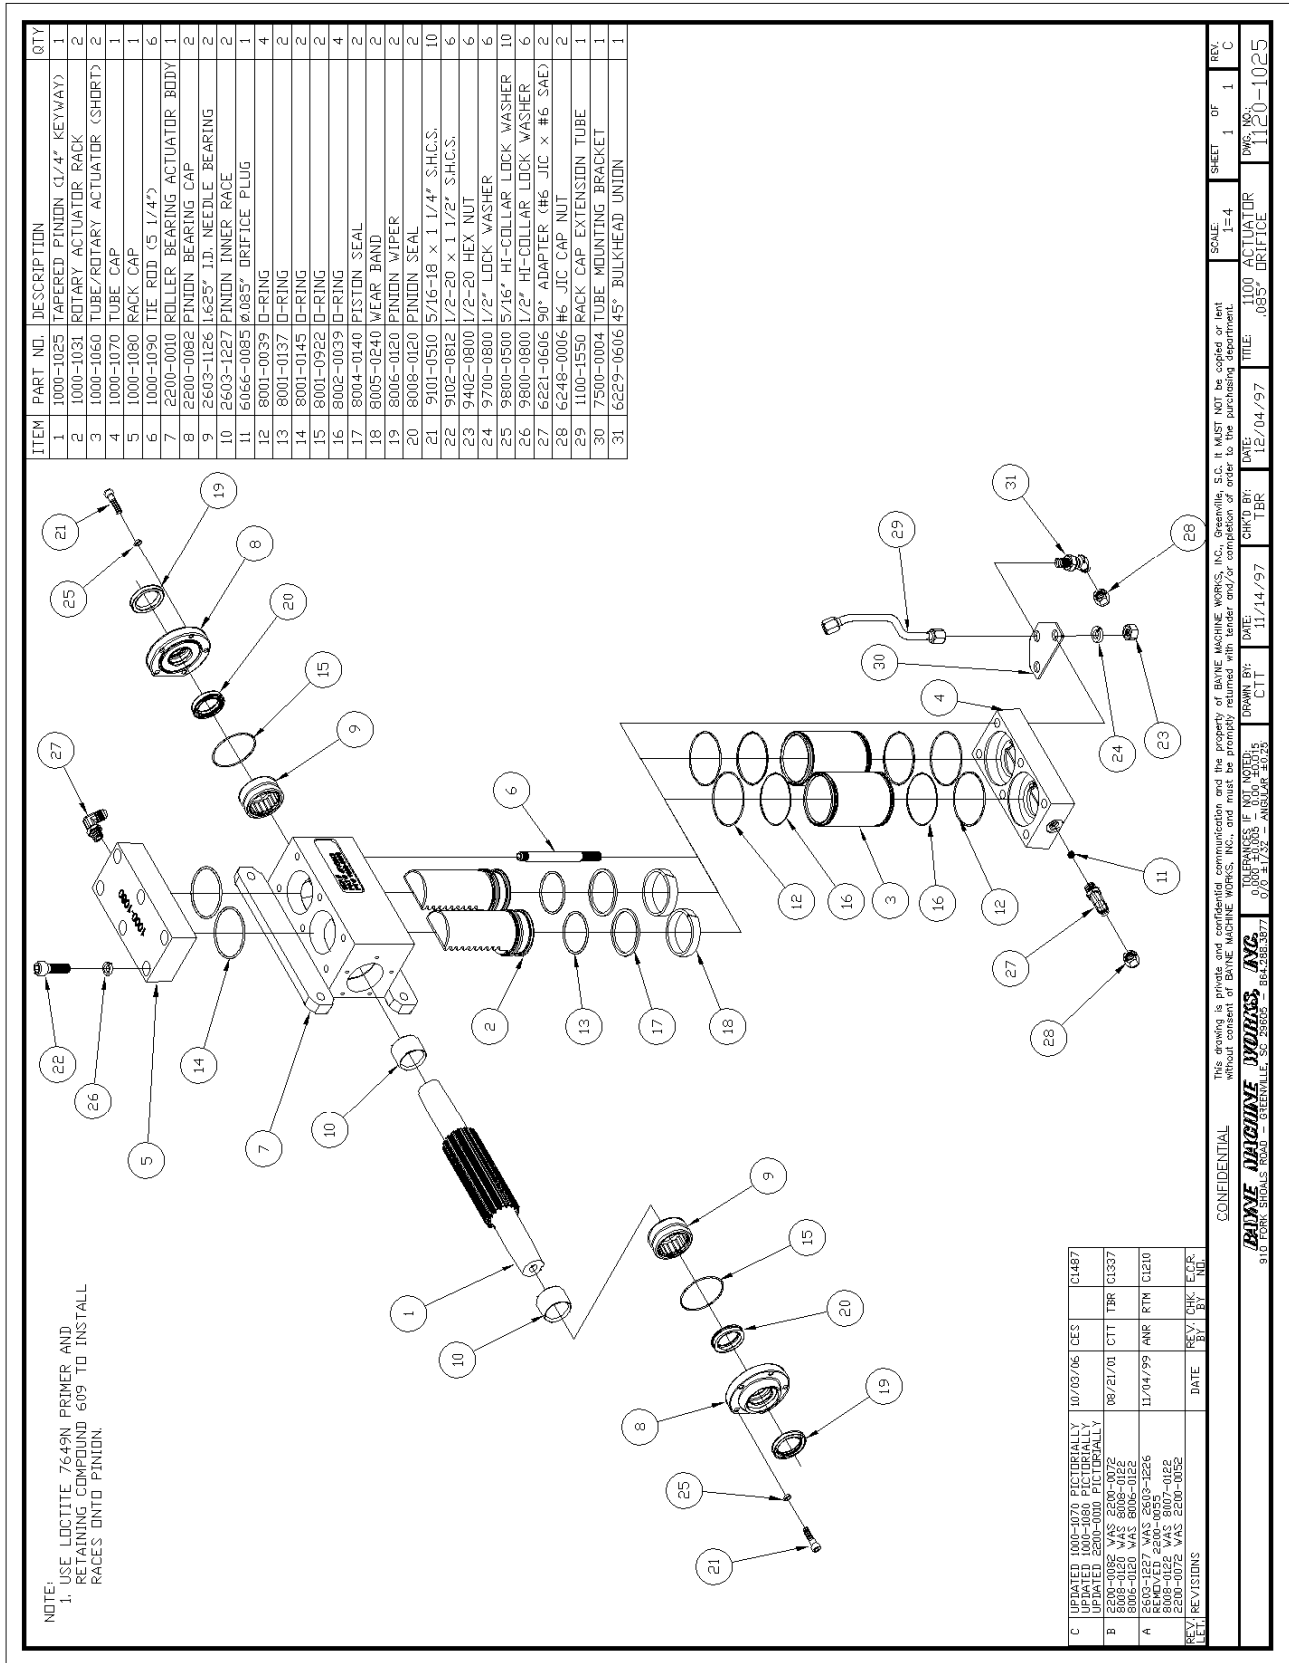

figure A-13
Before starting the assembly of the Rotary Actuator, refer to the exploded parts drawing and parts list (fig. A-13 found at the end of these instructions) to familiarize yourself with the individual components. Prepare a clean surface, in an area free of blowing dust and contaminants in which to assemble the Rotary Actuator. Be sure that all parts are thoroughly clean and dry before starting assembly.
2. Install the tube seal (12) (fig. A-2) and “square” tube seal backup (16) on each end of the actuator tubes (3) (fig. A-13). Be sure that the “square” tube seal backup ring is toward the inside of the tubes at both ends as shown. Press all rings firmly into the grooves. Repeat this procedure for the other tube.
- Coat the head portion of the racks (2) (fig. A-13) with STP Oil Treatment. Install the racks, head portion up with the teeth facing the flanges of the actuator body, into the dual set of bores in the body. Simultaneously slide the racks into the bores so that the racks mesh with the pinion in the same position. Rotate the pinion shaft to engage the racks into the pinion.
7. Coat one end of the actuator tubes (3) (fig. A-13) around the seal area with STP Oil Treatment as shown in figure A-7. Using a rubber mallet, drive the coated end of the tube onto the exposed rack until the tube end seats in the actuator body, making sure that the seals remain in place as the tube enters the counter-bore. Repeat this procedure for the other side.
8. Install the six tie rod studs (6) (fig. A-13) by screwing the short threaded end into the actuator body. Hand tighten only at this time (the torque needed will be applied later in the procedure).
9. Place the tube cap (4) (fig. A-13) on the table. Coat the sides of the two bores in the tube cap with STP Oil Treatment. Install the cap over the tubes and rod studs with the oil port positioned to the left as shown in figure A-13. Using a rubber mallet, tap the tube cap over the tubes until the tubes seat in the cap, making sure that the seals remain in place.
10. Place the tube mounting bracket (30) (fig. A-13) over the two end rod studs opposite the oil port in the tube cap as shown in figure A-13.
11. Install the hex nuts (23) (fig. A-13) and lock washers (24) on the tie rod studs. Torque the nuts to 50 ft-lb. in the sequence shown in figure A-8.
12. Place the rack cap (5) (fig. A-13) bore side up on the table and coat the edge of each bore with STP Oil Treatment. Install the rack cap seals (4) (fig. A-9) in the rack cap.
13. Reposition the actuator on the table mounting flanges down, and the lower tubes facing away from the assembler. Rotate the pinion shaft to allow 1" of the rack to protrude from the top of the actuator body. Install the rack cap with the oil port positioned to the left hand side of the actuator opposite the bottom oil port located in the tube cap as shown in figure A-13. Attach the rack cap to the actuator body using the socket head bolts (22) (fig. A-13) and lock washers (26). Torque the bolts to 90 ft-lb. in the sequence shown in figure A-10.
15. Re-center the actuator pinion in the actuator body by tapping on one end of the shaft with a rubber mallet. Install the roller bearing (9) (fig. A-13), over the pinion shaft and inner race, and into the actuator body. Repeat this procedure for the other bearing.
18. Wrap masking tape or electrical tape around the pinion to cover the edges at the keyway. Slide the bearing cap assembly over the pinion shaft with the bearing cap seal facing toward the actuator body and the flat surface of the flange shown in figure A-12 facing toward the actuator mounting flanges. Press against the bearing cap until the shoulder seats against the actuator body, making sure that the seals remain in place. Install the bearing cap bolts (21) (fig. A-13) and lock washers (25). Hand tighten only at this time. Repeat this procedure for other bearing cap.
20. Install the 90° fitting (27) (fig. A-13) into the oil port on the side of the rack cap (5). Hand tighten only at this time.
21. Install the 45° bulk-head fitting (31) (fig. A-13) up through the hole in the tube mounting bracket (30) bolted to the tube cap as shown in figure A-13. The 45° end must be pointing down away from the rack cap (5) and back toward the mounting flanges on the actuator body. Hand tighten only at this time.
22. Install the rack cap extension tube assembly (29) (fig. A-13) between the 90° fitting in the rack cap and the 45° fitting in the tube mounting bracket as shown in figure A-13. Tighten all connections.
23. Install the orifice plug (11) (fig. A-13) into the oil port on the side of the tube cap (4), and install the 90° fitting (27) into the oil port over the orifice plug as shown in figure A-13. Turn the fitting so that it points down away from the rack cap (5) and back toward the mounting flanges on the actuator body and tighten.
24. Install the cap nuts (28) (fig. A-13) onto the open fittings to prevent contamination of the unit until the hoses are installed.